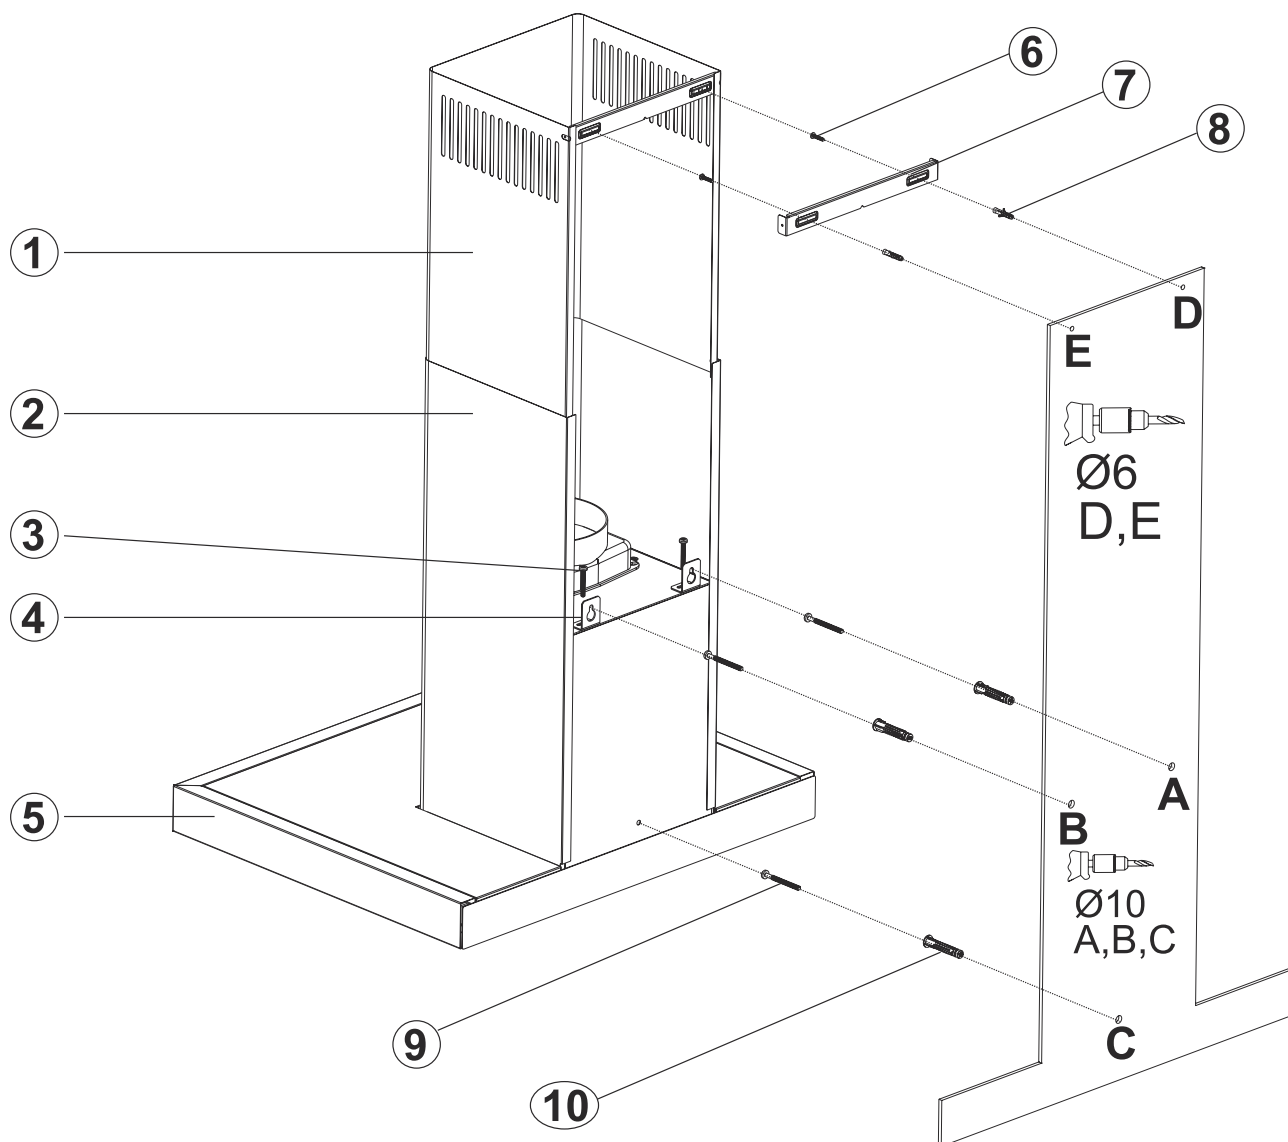

Fig. 12
2. ➡ Affix the assembly pattern on the wall at the specified height (See the minimum and maximum distances intended for the worktop, in the assembly pattern) and drill holes A, B and C with the dimensions specified in the template (Fig. 12).
3. ➤ Insert Ø 10mm wall plugs into the holes drilled as A, B, C, D, and screw down the 5.5 x 60 screws (9) at the points A + B, in such a way as to remain 5mm space between the screw head and the wall (Fig. 12).
4. ➤ Affix the hanging plates of the cooker hood on the body of the cooker hood with M5x35 bolt (3) (Fig. 12).
5. ➤ Hang the hood from its hanging plates on the wall at points (A, B). If the hood is not parallel, position its shape to parallel by tightening or loosening M5x35 screw (3).